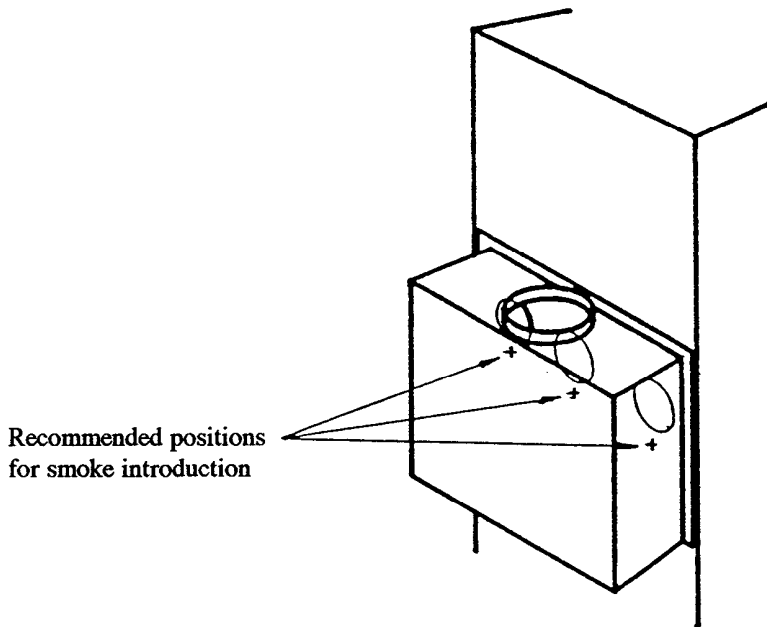

Fig. 4
- a) If the draught diverter is accessible, introduce smoke, e.g. by means of a puffer or smoke match, into the draught diverter adjacent to an exit from the heat exchanger (see Fig.4). Spillage is indicated by displacement of smoke downwards and out of the draught diverter.